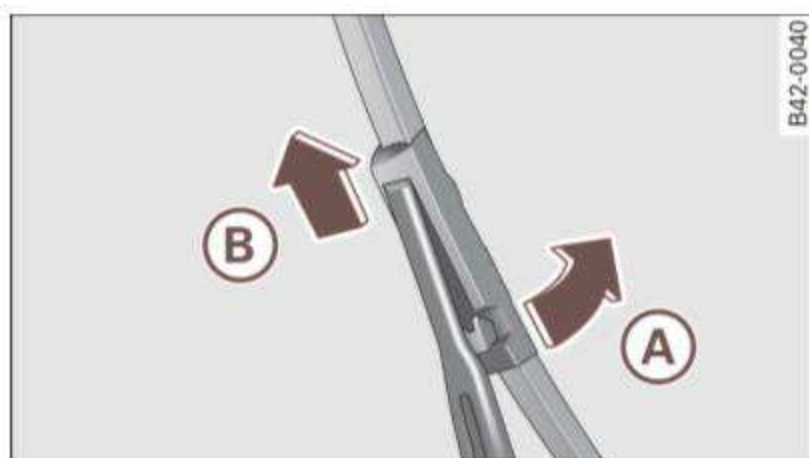

Fig. 52 Removing wiper blades
- Rotate the wiper blade in the direction of the arrow (A) ⇒ *fig. 52* away from the wiper arm.
- Lift the wiper blade off in the direction of the arrow (B).
- Place the rounded end of the wiper onto the end of the wiper arm in the **opposite** direction to the arrow (B) ⇒ *fig. 52*.